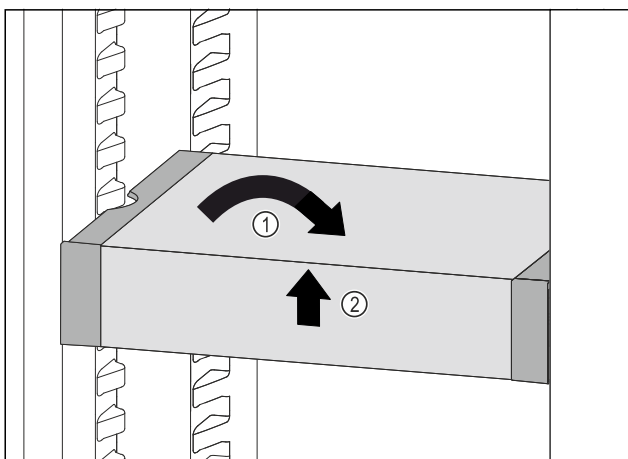

Fig. 102
- ▶ Set VarioSafe straight. Fig. 102 (1)
- ▶ Lift VarioSafe at the front. Fig. 102 (2)